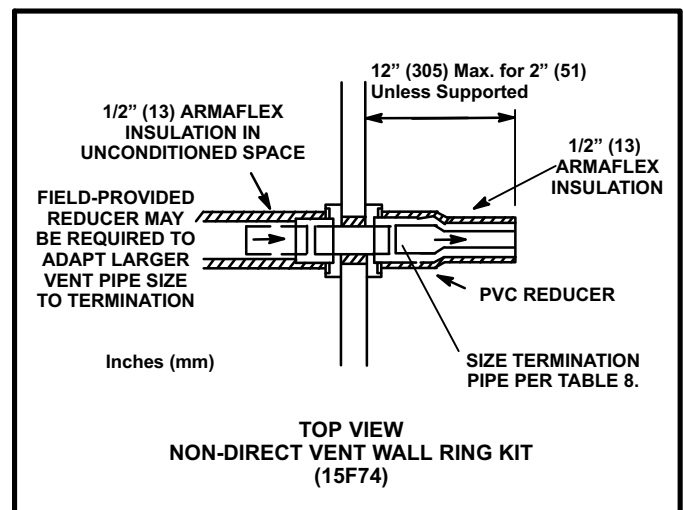

FIGURE 41
- 2 - On field supplied terminations for side wall exits, exhaust piping should extend a maximum of 12 inches (305mm) beyond the outside wall, unless support is provided in the horizontal section. See figure 41.